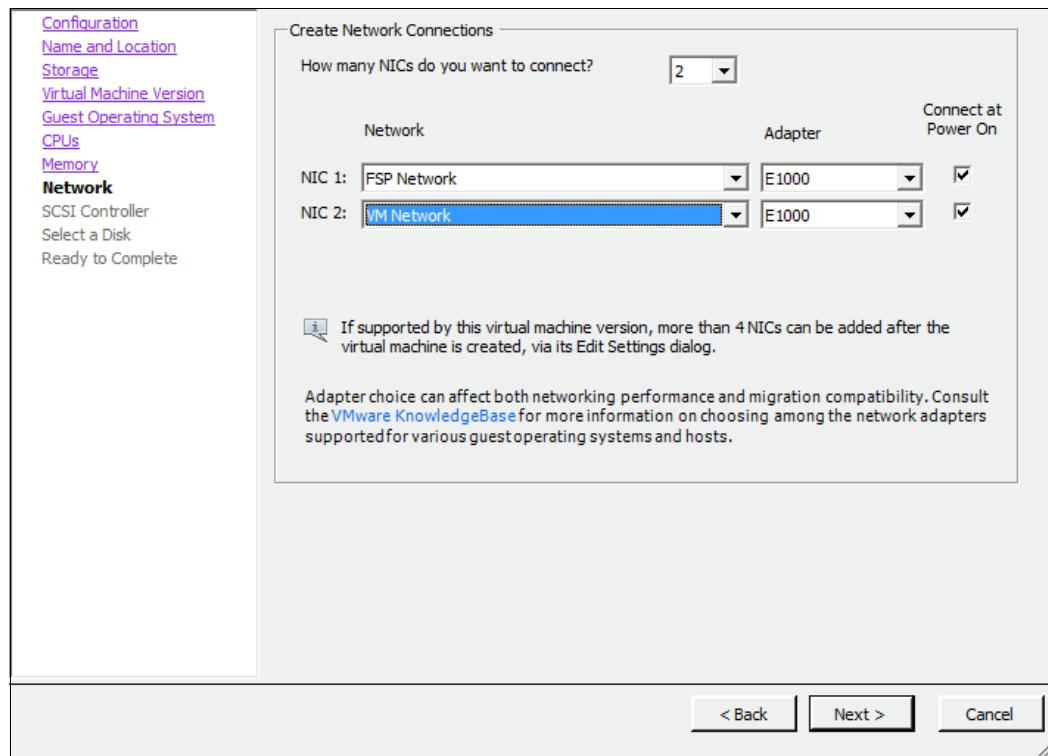

Figure 3-11 Network selection panel
9. In the Network panel (Figure 3-11), choose the number of virtual adapters and assign each of them to the network switch to match your configuration, depending on whether you plan to have an service processor network or not. Click **Next**.